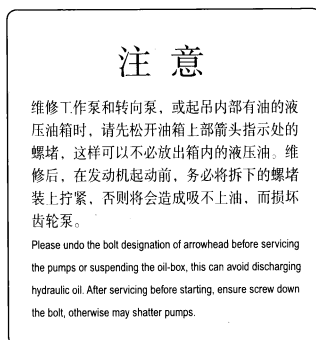

Figure1-10
1.4.5 Notice To Injecting The Hydraulic Oil. (Figure 1-10)